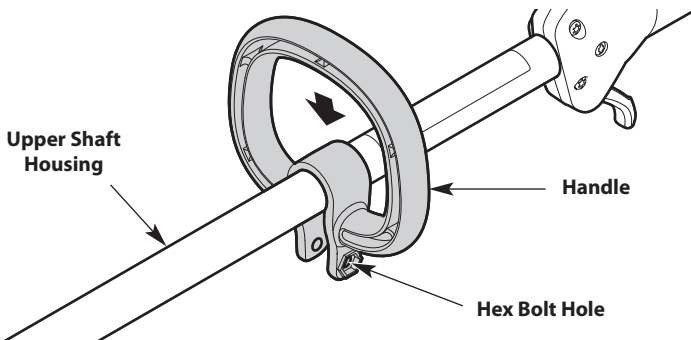

Fig. 8
1. Push the handle down onto the upper shaft housing (Fig. 8). Make sure the hex bolt hole faces to the left (Fig. 8).